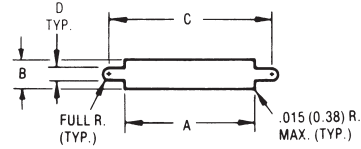
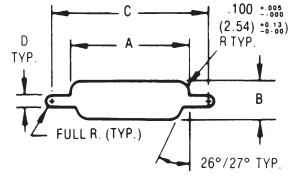

FIGURE 1
FIGURE 2
1. Front mounting (Figure 1) and rear mounting (Figure 2) accommodates #2-56 screws.
2. Front mounting is preferred. However, when rear mounting is necessary, use Figure 2 dimensions when jackscrews are used.